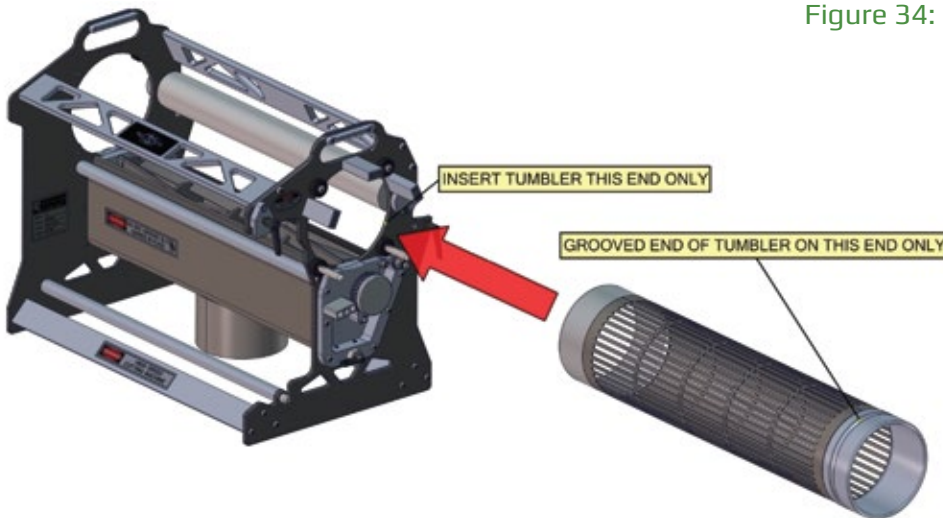

Figure 35: Inserting the tumbler
- Insert tumbler – Note, it can only be inserted in one end of the machine, and only in one direction (Figure 35)
The tumbler can only be inserted on the side of the T4 that holds the hopper – it will not fit through the other end. Only insert the non-grooved side of the tumbler into the machine, as the groove needs to be exposed on the same end as the control box (Figure 35).